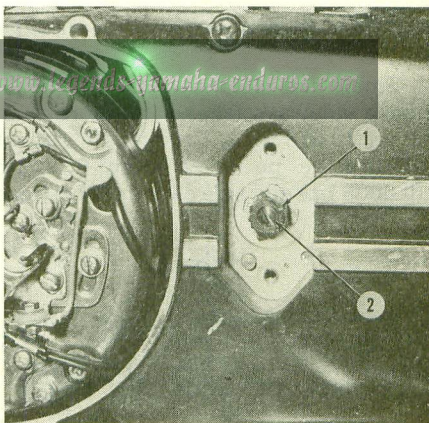
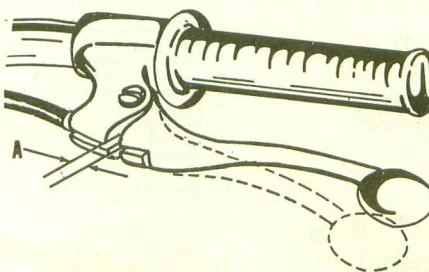

Fig. Y11-8—Clutch adjustment point on left side of engine.
Fig. Y11-9—Adjust clutch cable to obtain 2-3mm free play at (A).
CLUTCH CONTROLS. To adjust clutch, remove the small cover on left side of engine case. Loosen lock nut (1—Fig. Y11-8) and turn screw (2) in until it seats lightly. Back screw out ¼ turn and tighten lock nut. The clutch lever should be adjusted to provide 1/16-1/8 inch free play. Refer to Fig. Y11-9.